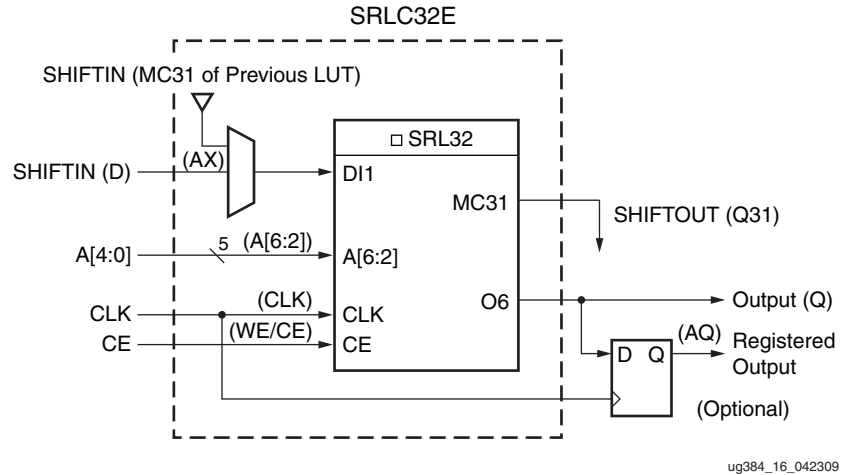

Figure 16: 32-bit Shift Register Configuration
The write operation is synchronous with a clock input (CLK) and an optional clock enable (CE). A dynamic read access is performed through the 5-bit address bus, A[4:0]. The LSB of the LUT is unused and the software automatically ties it to a logic High. The configurable shift registers cannot be set or reset. The read is asynchronous; however, a storage element or flip-flop is available to implement a synchronous read. In this case, the clock-to-out of the flip-flop determines the overall delay and improves performance. However, one additional cycle of clock latency is added. Any of the 32 bits can be read out asynchronously (at the O6 LUT outputs) by varying the 5-bit address. This capability is useful in creating smaller shift registers (less than 32 bits). For example, when building a 13-bit shift register, simply set the address to the 13th bit. Figure 16 is a logic block diagram of a 32-bit shift register.